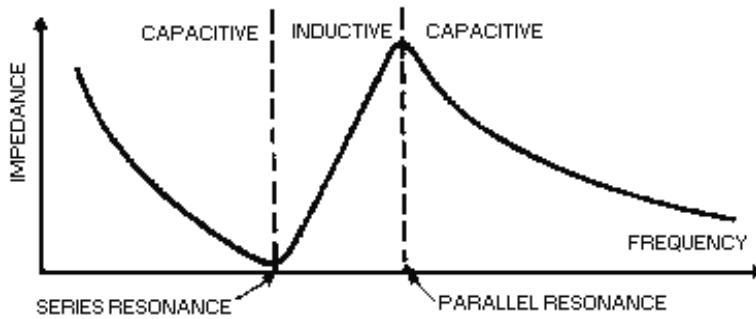

Figure 2-21.—Frequency response of a crystal.
At some frequency, the reactances of equivalent capacitor C1 and inductor L will be equal and the crystal will act as a series-tuned circuit. A series-tuned circuit has a minimum impedance at resonance (figure 2-21). Above resonance the series-tuned circuit acts INDUCTIVELY, and below resonance it acts CAPACITIVELY. In other words, the crystal unit has its lowest impedance at the series-resonance frequency. The impedance increases as the frequency is lowered because the unit acts as a capacitor. The impedance of the crystal unit also increases as the frequency is raised above the series-resonant point because the unit acts as an inductor. Therefore, the crystal unit reacts as a series-tuned circuit.
Since the series-tuned circuit acts as an inductor above the resonant point, the crystal unit becomes equivalent to an inductor and is parallel with the equivalent capacitor C₁ (view (B) of figure 2-20). At some frequency above the series-resonant point, the crystal unit will act as a parallel-tuned circuit. A parallel-tuned circuit has a MAXIMUM impedance at the parallel-resonant frequency and acts inductively below parallel resonance (figure 2-21). Therefore, at some frequency, depending upon the cut of the crystal, the crystal unit will act as a parallel-tuned circuit.